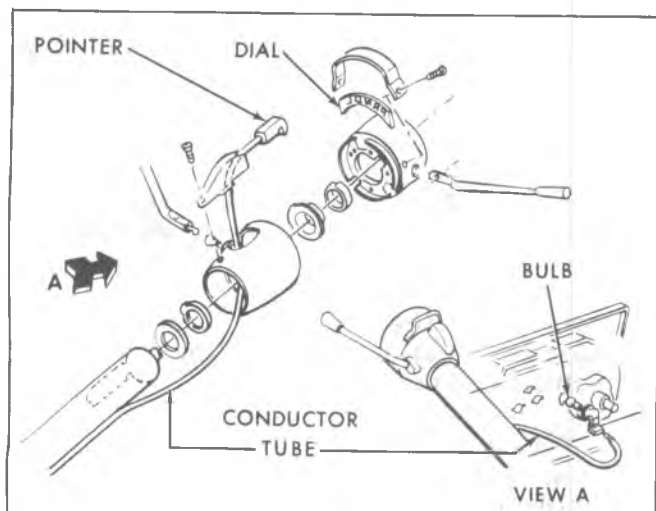

Fig. 3B4-87--Conductor Tube For Automatic Transmission Indicator
3. Position and attach the lower clamp mounting bracket to the firewall. Locate the steering column protrusions against the toe pan bracket while at the same time, aligning protrusion in brake and clutch pedal support with index slot in the steering column, as shown in Figure 3B4-87. Install the column to bracket clamp and torque the clamp bolt to specifications.